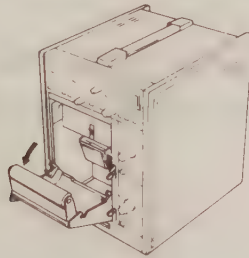

Fig. 2-1
- 2 Pull the writing panel knob forward and lower the writing panel towards the front (see Fig. 2-1).